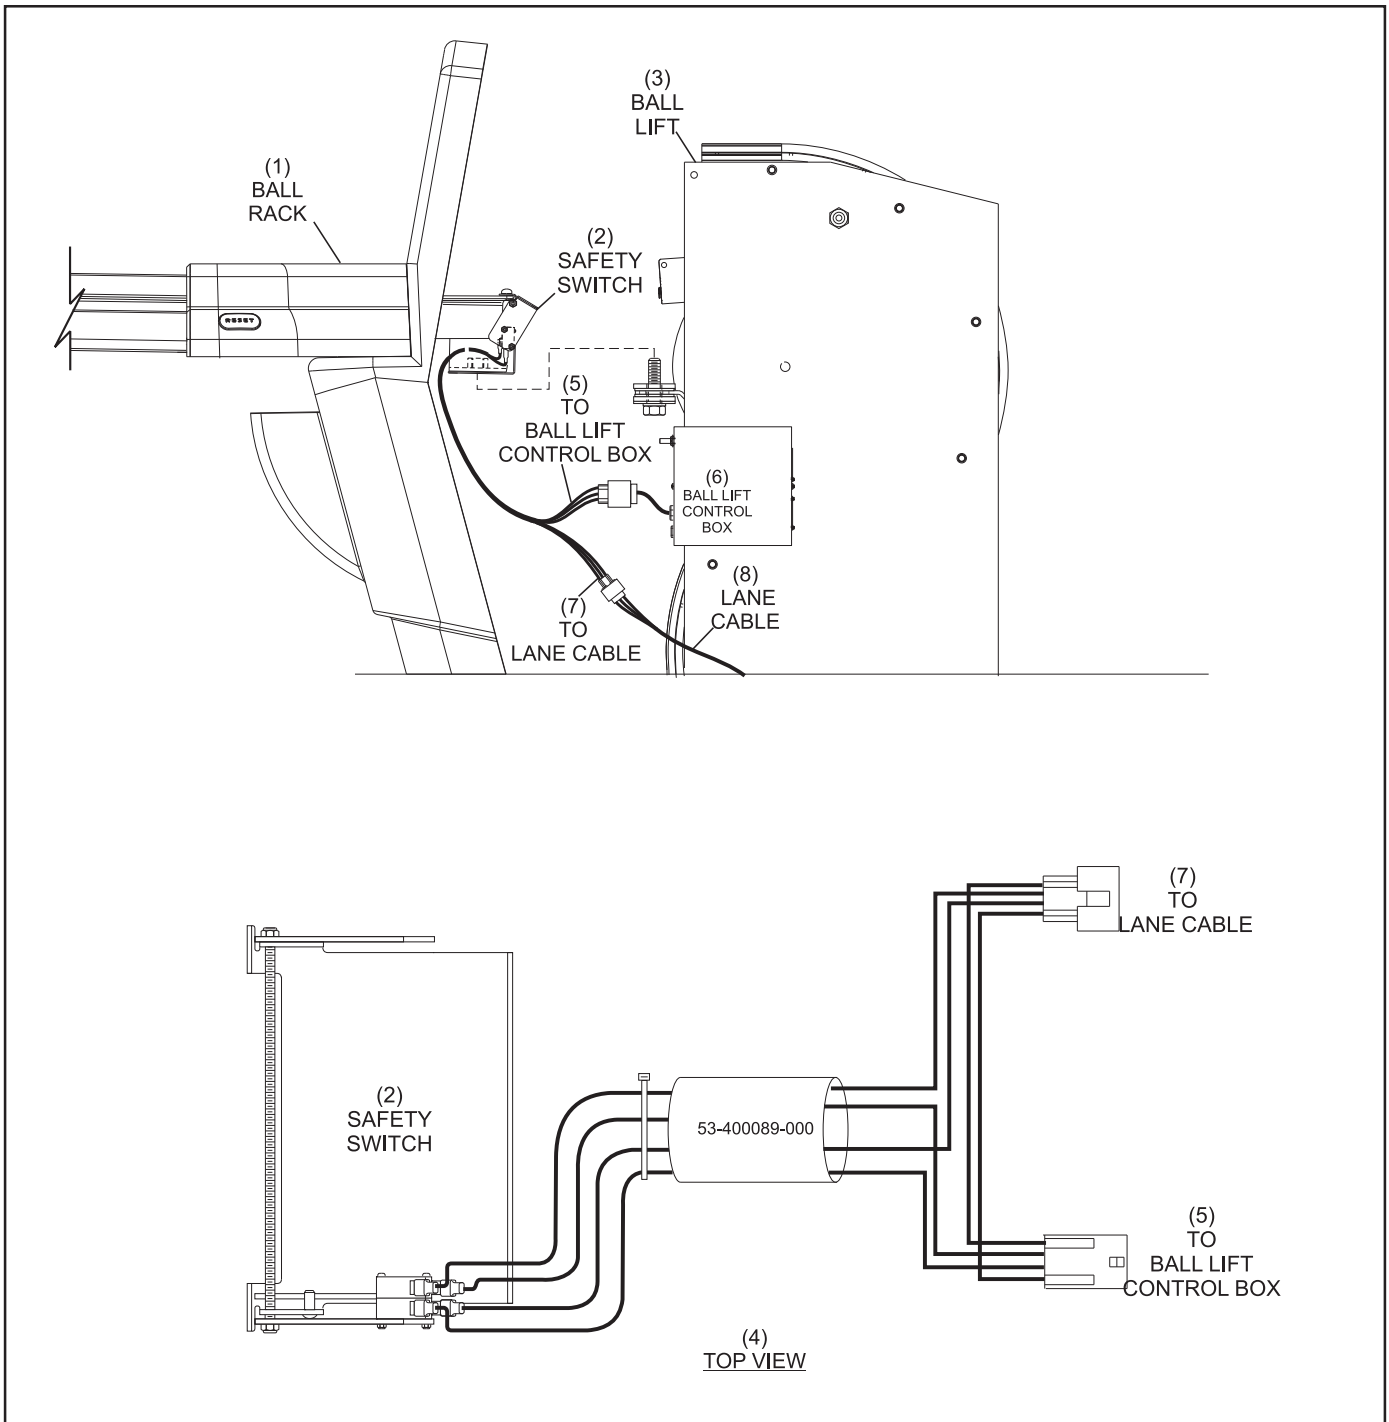

Figure 3. Connect Safety Switch
2. Connect the electrical connections. Refer to *Figure 3*.